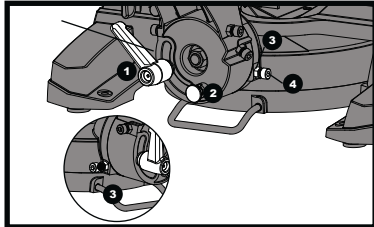

Fig 23
- 1) Twist and deploy sprung-loaded crown moulding pin (2).
- 2) Loosen the bevel lock handle (1) and rotate the cutting head in the required direction until it indexes with the moulding pin (2). Tighten the bevel lock. (See fig. 23)
- 2) If adjustment is required loosen the locknut (3) to the relevant socket headed stop screw. Adjust the screw in or out until the correct bevel angle is achieved. Retighten the locknut. (See fig. 23)